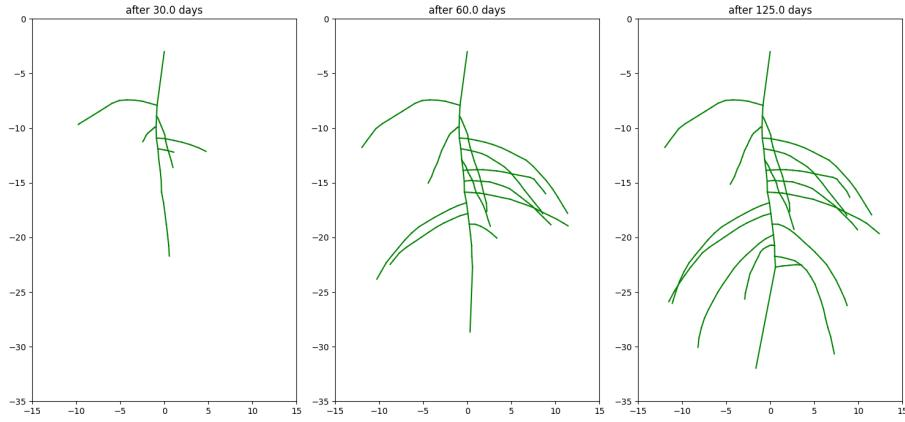

Figure 4: Root development
- 54-70 Within the simulation loop we create Figure 4. L58-61 defines the limits and titles. In L63 we retrieve the roots as polylines which are represented by a list of nodes. In L64-67 we plot the *x* and *z* coordinates for each segment  $(n, n2)$  as green line.
With such simple simulations, we can quickly check if the model does, what we expect. For example the maximal number of laterals of above parameters is  $16 = \text{round}(l_{\max} - la - lb)/l_n + 1$ . We can calculate the time when the final lateral emerges as  $-(l_{\max}/r) * \ln(1 - (l_{\max} - l_n/2)/l_{\max}) = 122.8$  days. At simulation time 125 the last lateral root that has emerged is 2.2 days old, and therefore approximately 4.4 cm long (initial growth rate  $r_1 = 2$ ), which agrees with Figure 4.